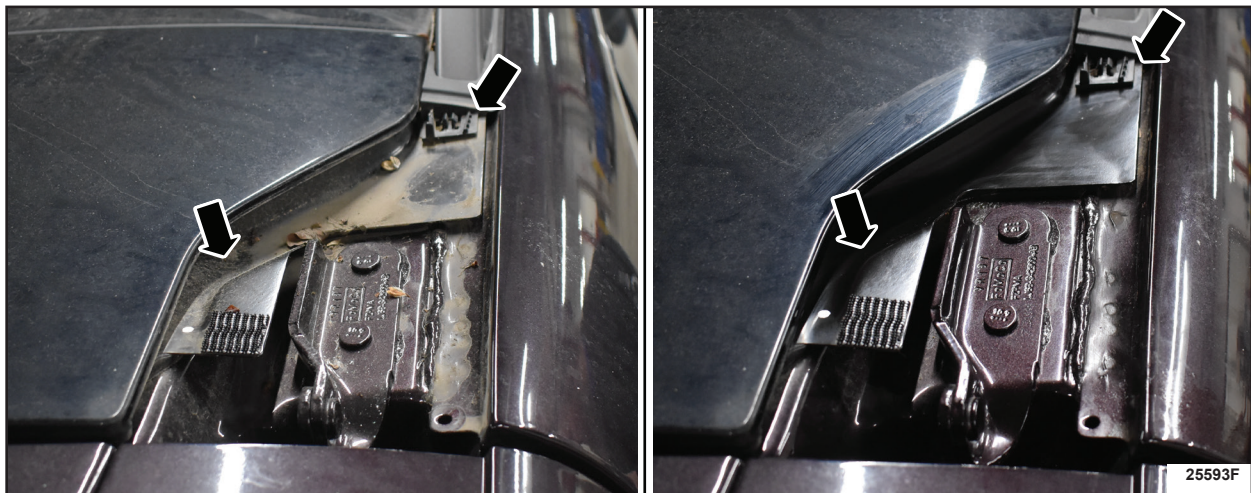

FIGURE 5
6. Using isopropyl alcohol or equivalent and a clean shop towel, clean the hinge cover cavity and the two areas shown in Figure 5.